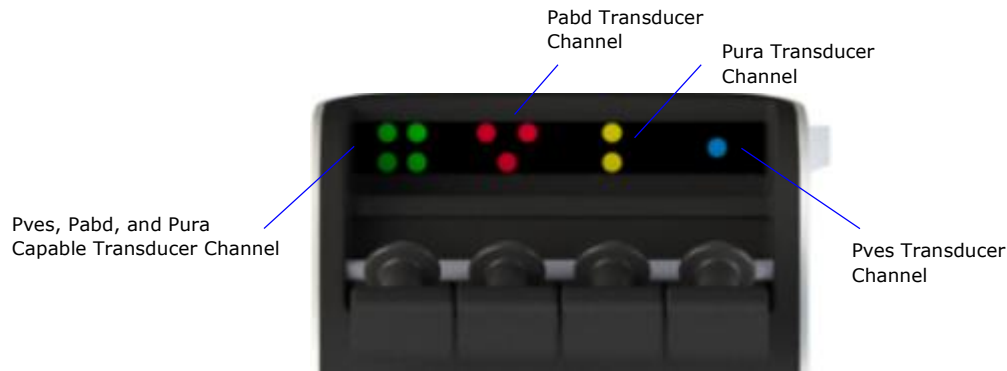

Figure 92: PIM NXT Color Coded Transducer Channels
- The PIM NXT uses an equivalent color-coding strategy to allow the user to match color coded transducers to catheters of the same color (Figure 92). The PIM NXT features an additional green transducer channel that can be used for vesical, abdominal, or urethral measurement.